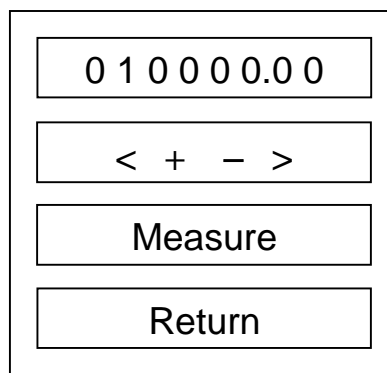

Figure 4. **Standard setting** screen
- d. After the Blank is read, the screen will look like the one shown in Fig. 4.